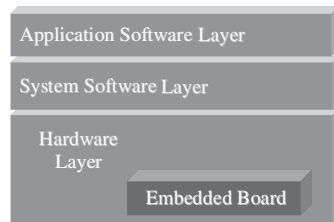

Figure 3-3: Embedded board and the Embedded Systems Model
In embedded devices, all the electronics hardware resides on a board, also referred to as a printed wiring board (PW) or printed circuit board (PCB). PCBs are often made of thin sheets of fiberglass. The electrical path of the circuit is printed in copper, which carries the electrical signals between the various components connected on the board. All electronic components that make up the circuit are connected to this board, either by soldering, plugging in to a socket, or some other connection mechanism. All of the hardware on an embedded board is located in the hardware layer of the Embedded Systems Model (see Figure 3-3).